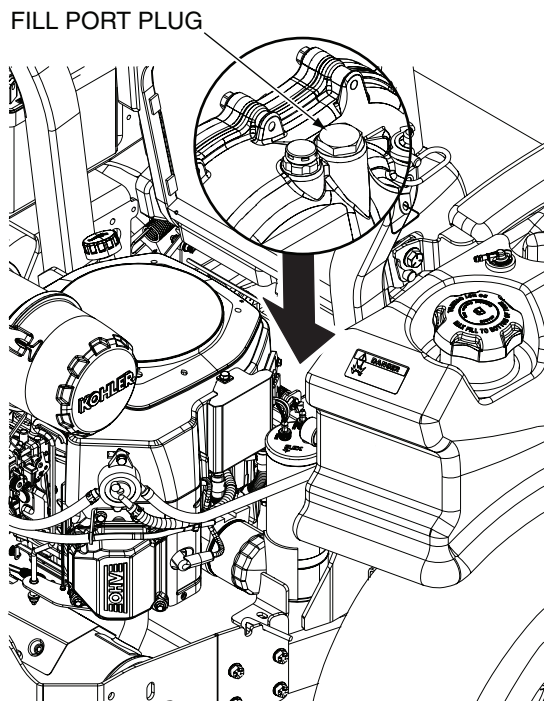

Figure 7-3. Right Side Fill Port Plug
8. Remove the fill port plug from the top of both transaxle. See Figure 7-3. Fill each transaxle with Scag Hydraulic System Oil (p/n 486255 - 1 Quart or p/n 486254 - 1 Gallon) oil until the oil just appears at the bottom of each axle top port. Approximately 2 quart capacity per transaxle (4 quart total). Reinstall the top port plugs and torque to 180 in/lbs.